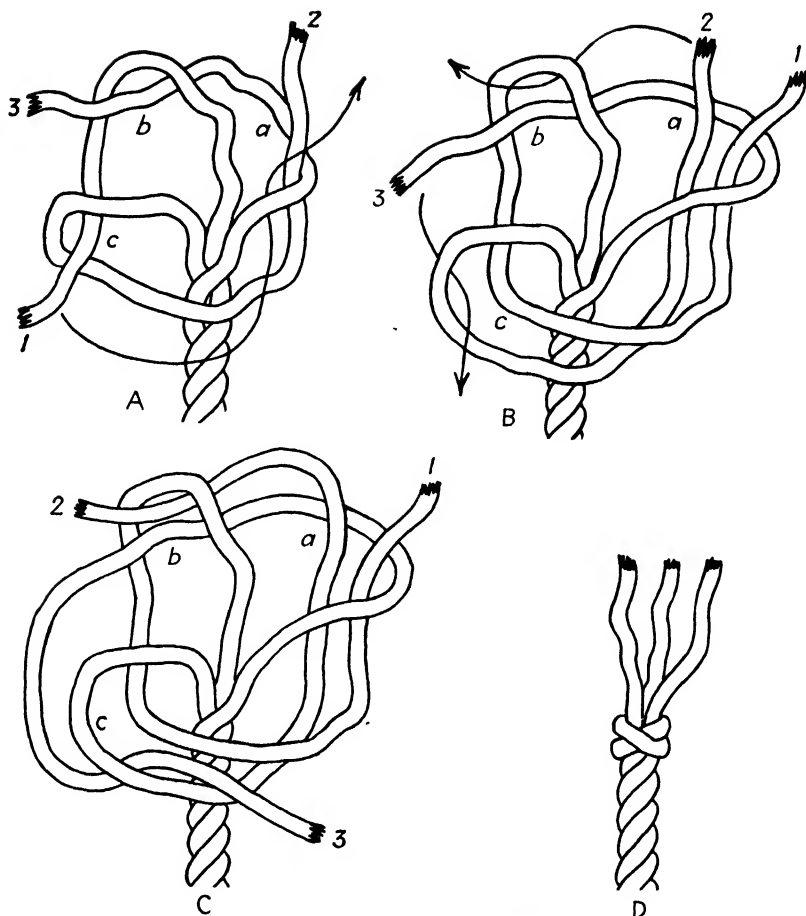

Fig. 8-7. The Matthew Walker knot.
1. First make a wall knot, but leave it loosely constructed (see Fig. 8-7).